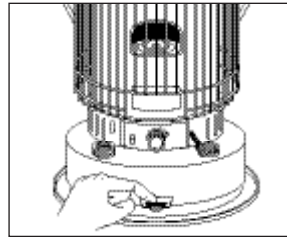

Fig.13
- i 'Push the ignition lever(Fig. 13) to bring the glowing igniter into contact with the wick. This will cause ignition to occur.